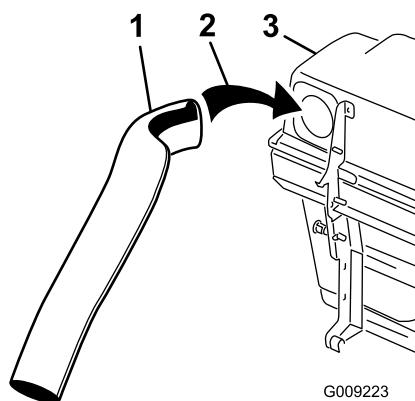
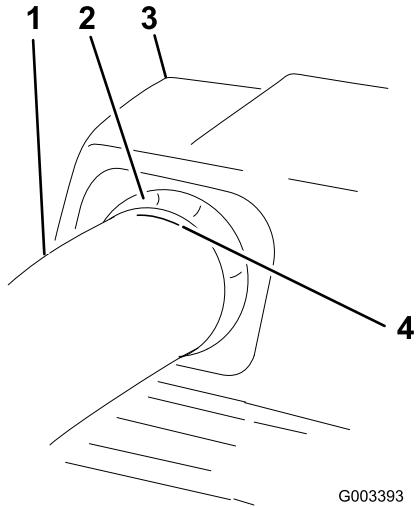

Figure 22
Figure 24
5. Install the upper tube into the bagger opening and pull it back out so the rubber seal is protruding out (Figure 22 and Figure 24).
- 7. Once the 3/4 inch (19 mm) measurement has been achieved, mark the upper tube on the outside where the rubber seal protrudes out. This is marked to ensure the correct position for the upper tube when drilling the holes and connecting the upper and lower tubes (Figure 24).